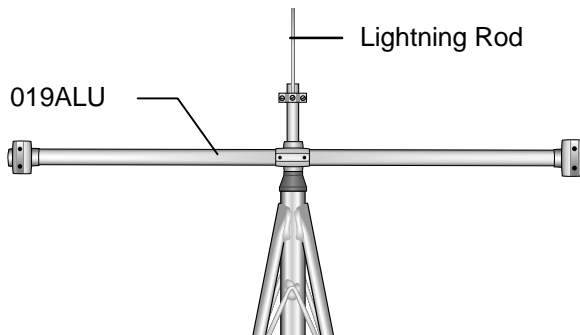

FIGURE 2.2-2. 019ALU Crossarm and Lightning Rod
Attach the 019ALU crossarm to the mast as shown in Figure 2.2-2.
2. Install the lightning rod to the mast as shown in Figure 2.2-2. Loosen the two screws on the lightning rod mounting bracket. Position the mounting bracket 2" down from the top of the mast and tighten both screws evenly. Make sure the lightning rod set screw is tight.